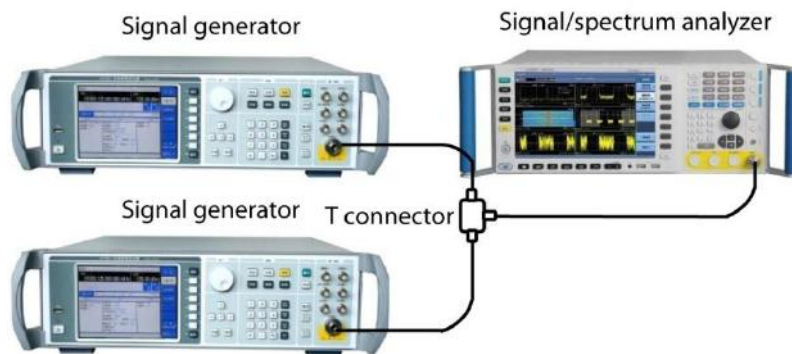

Fig. 4.7 Test instrument connection diagram of two input signals
**Step 1. connect two signal sources to the RF input port of the analyzer as shown in Fig. 4.7.**
In this section, a narrow resolution bandwidth is adopted to distinguish two signals with frequency interval of 50 kHz and amplitude difference of 60 dB. Output ports of two signal generators should be connected to the input port of the analyzer as shown in Fig. 4.7.